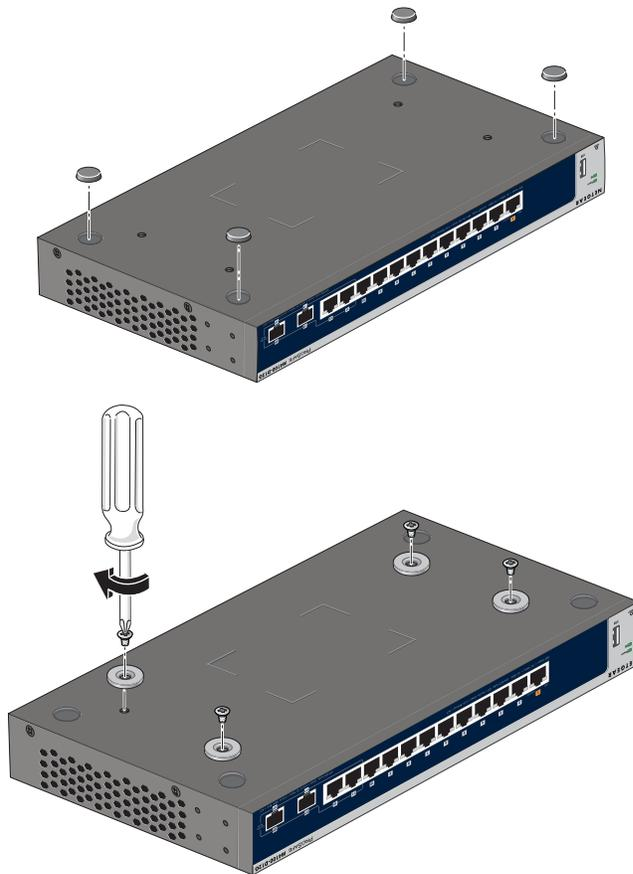

Figure 13. Installing the *M4100-D12G* and *M4100-D10-POE* Switches using Magnets
1. Attach the magnets to the switch using a No. 1 Phillips screwdriver and 4 screws (provided) as shown in Figure 13.